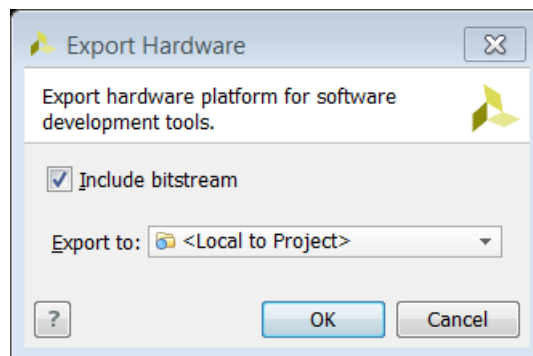

Figure 25: Export Hardware for SDK
2. Ensure that the **Include Bitstream** check box is checked and that the **Export to field** is set to the default option of **<Local to Project>** as shown in Figure 25.